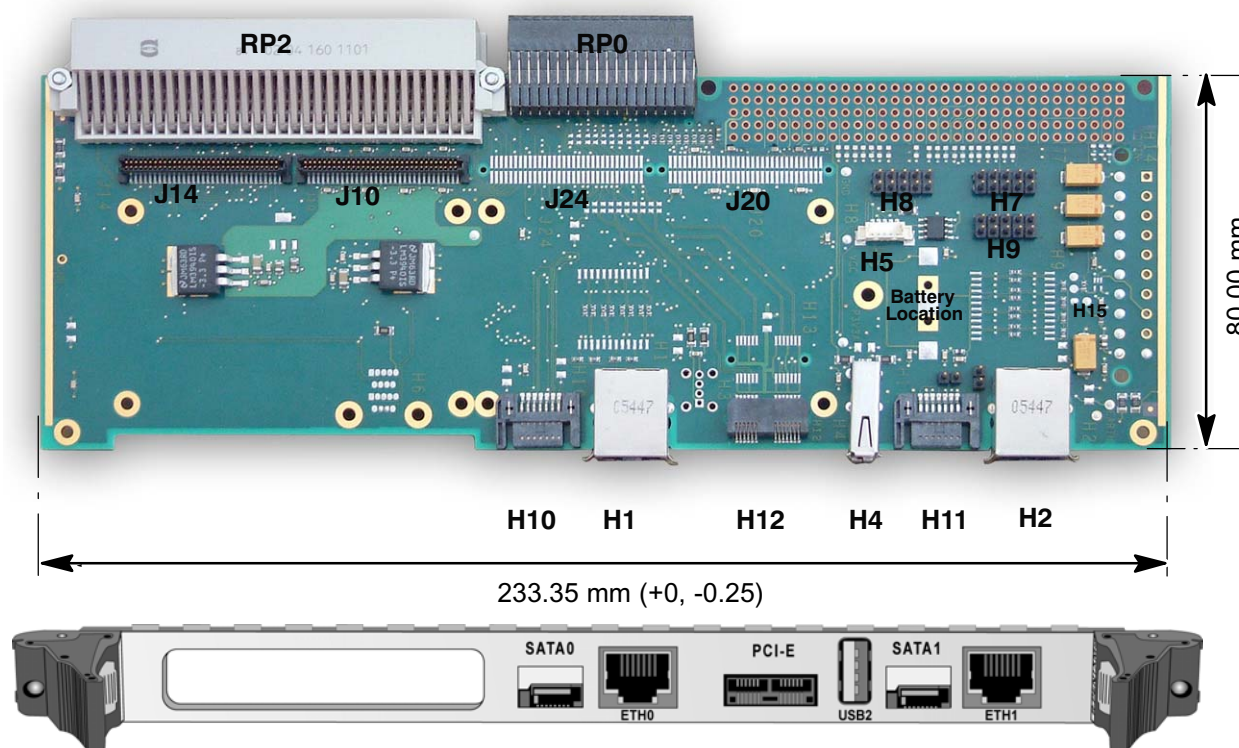

Figure 38: PBV36-P0-VM6-00 Module Overview
- Two 10/100/1000BASE-TX Ethernet interface, **H1** and **H2** connectors on Figure 38
- One USB connector, **H4** on Figure 38
- One SMB connector, **H5** on Figure 38
- Two Serial lines ports available on two HE10 connectors (**H7**, **H8** on Figure 38)
- Three GPIOs signals available through an HE10 connector, **H9** connector on Figure 38
- Two Serial ATA connectors, **H10** and **H11** connector on Figure 38
- One PCI Express connector, **H12** connector on Figure 38